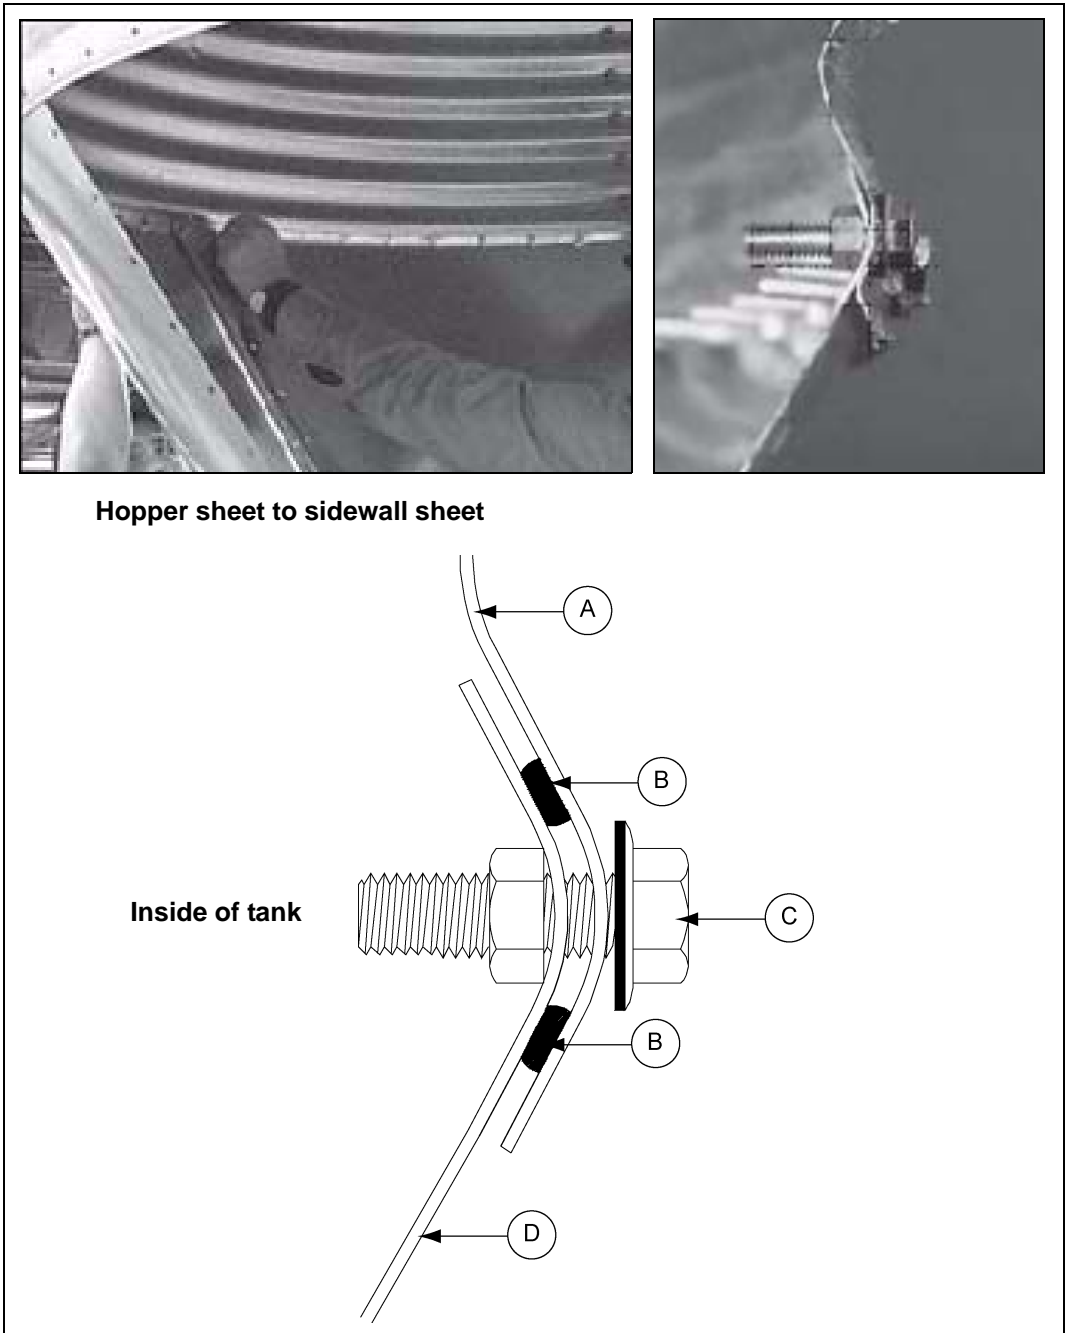

Figure 12B
When starting to attach hopper sheets to sidewall it is recommend that the first hopper sheet seam be positioned halfway between leg positions. Lap the hopper sheets as shown in Figure 12B on Page 64. Apply two (2) strips of caulking on all seams at sidewall to hopper and hopper sheet to hopper sheet. Be sure to place the head of the truss bolt on the **inside** of hopper. Leave one hopper sheet out to allow room to install hopper collar. Be sure to use two (2) strips of caulking between hopper collar and hopper sheets, then put last hopper sheet in place.